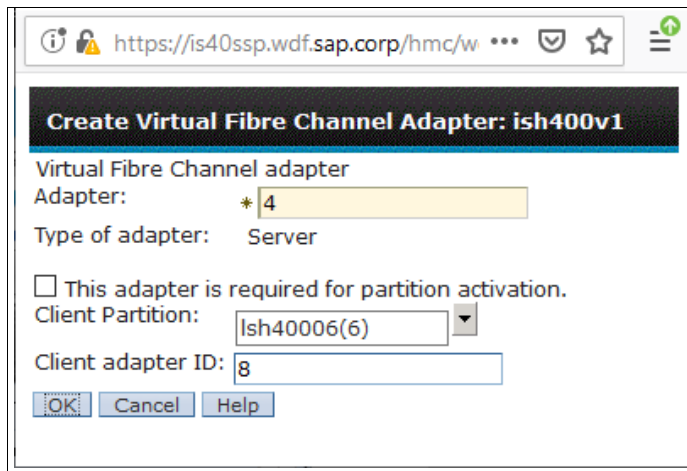

Figure 2-8 Adding the virtual Fibre Channel number on HMC
- d. Enter the virtual FC adapter number for the virtual FC server adapter. Then, select the client partition to which the adapter can be assigned and enter the client adapter ID, as shown in Figure 2-8. Click **OK**.